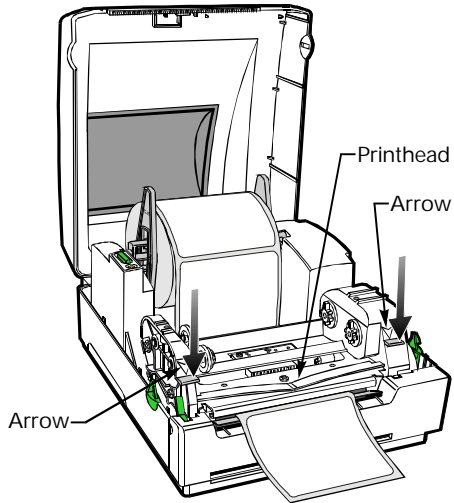

Figure 9
12. Close the printhead by pressing down at both arrows (refer to Figure 9).